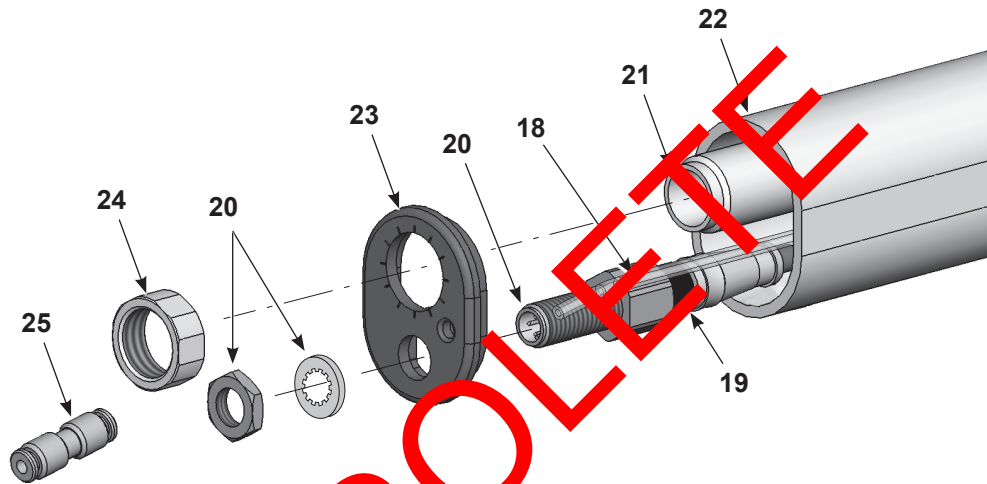

Figure 17 Tube-Mount Gun Disassembly 1 of 5
2. See Figure 17. Disconnect the union (25) from the clear 4-mm air tubing (18).
3. Disconnect the gun cable (not shown) from the cable receptacle (20).
4. Unscrew the clamping tube nut (24) from the clamping tube (21).
5. Remove the nut and lock washer from the cable receptacle (20). Save the nut and lock washer for reuse.
6. Pull the end cap (23) off the end of the gun.
9. See Figure 17. Connect the extension cable (19) to the receptacle (20) in the end cap (23).
11. Install the end cap on the mounting tube, feeding the clamping tube (21) and clear 4-mm tubing (18) through the end cap.
12. Secure the cable receptacle (20) to the end cap with the lock washer and nut.
13. Thread the clamping tube nut (24) onto the clamping tube and tighten securely.
14. Install the union (25) on the clear 4-mm tubing.